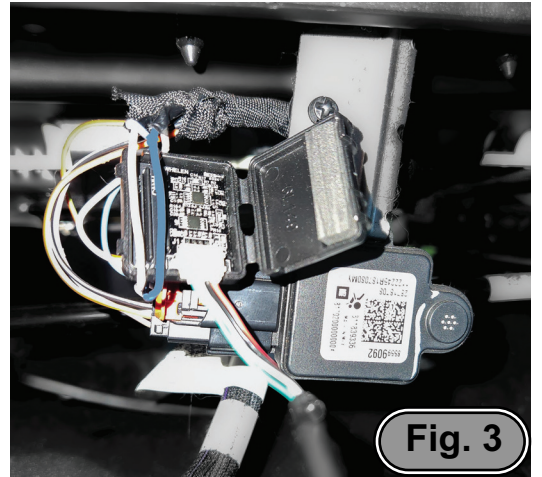

Fig. 3
3. Using caution to avoid crossing the wires, lay both the CAN H and CAN L wires into the designated channels of the SCANport™ Sensor Box (Fig.3).